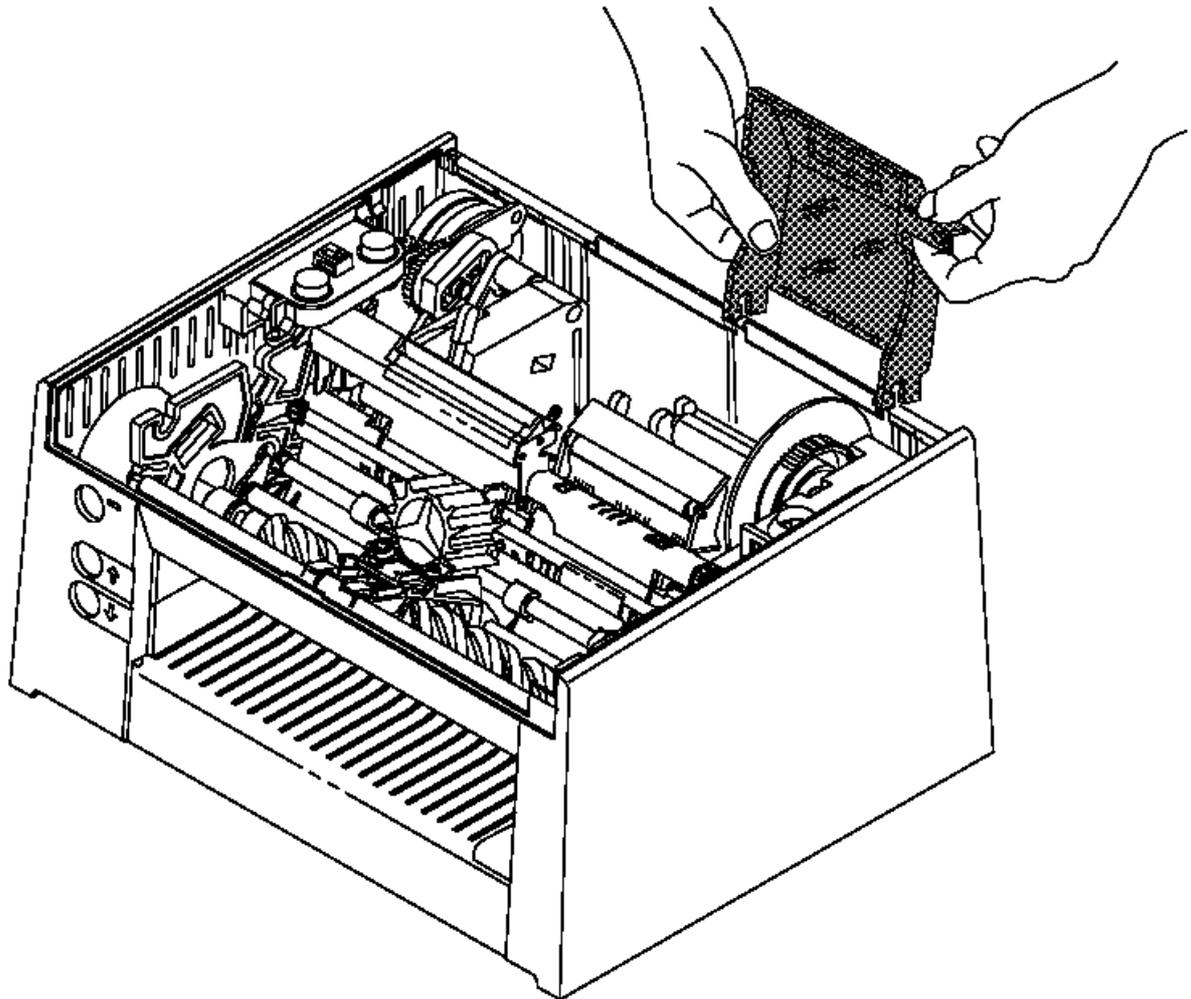

Figure 6-72. JNL Cover
1. Put the JNL cover on the hinge as shown. See Figure 6-72.